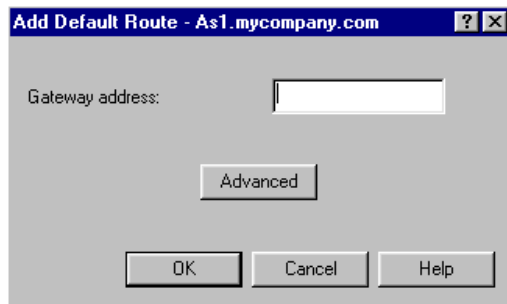

Figure 318. Add Default Route
10. The TCP/IP routing additional information window allows you to specify if these routes should be published to the network using RIP1 or RIP2. You can also define default routes, network routes, and routes to a specific host. Click the appropriate button to add the required routes. In this example, we clicked **Add default route**. The Add Default Route window (Figure 318) appears.